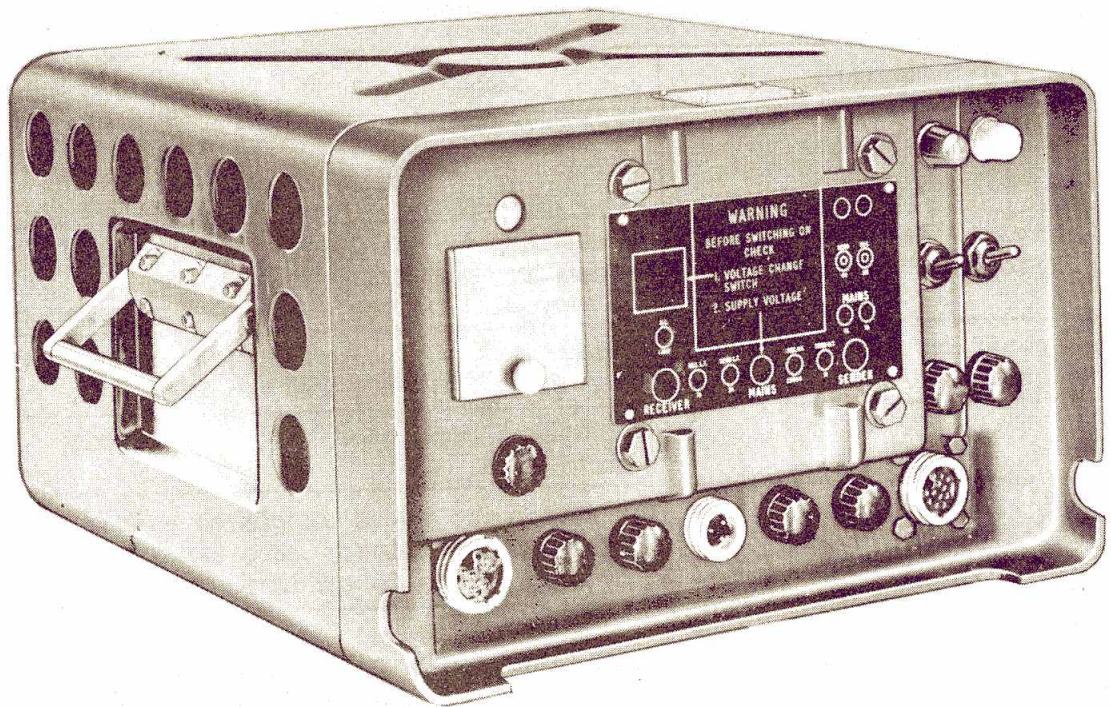

FIG.25 SUPPLY UNIT RECTIFIER No.30
- (1) This power supply unit, shown in fig. 25, enables Wireless sender C11 or Wireless